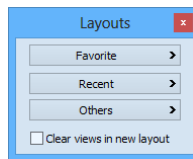

Figure 11 – Layouts tool
1. Press the  **Layout** item in the main toolbar or the **Favorite**, **Recent** or **Others** button in the **Layouts** tool of the tools panel (see Figure 11).